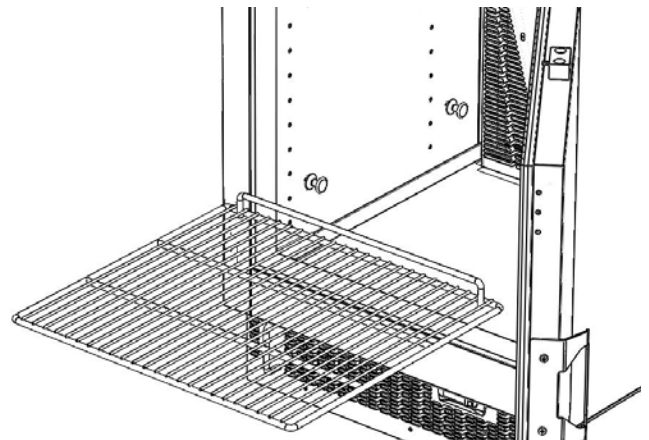

Figure 4.2
1. Install shelf brackets by screwing clockwise into the holes provided on the interior left and right walls of the cabinet. (See Figure 4.2)